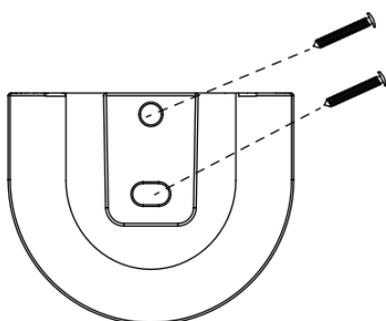

Fig. 15a
1. Locate a suitable wall to fix the remote control holder with the 2 screws. (Fig. 15a).